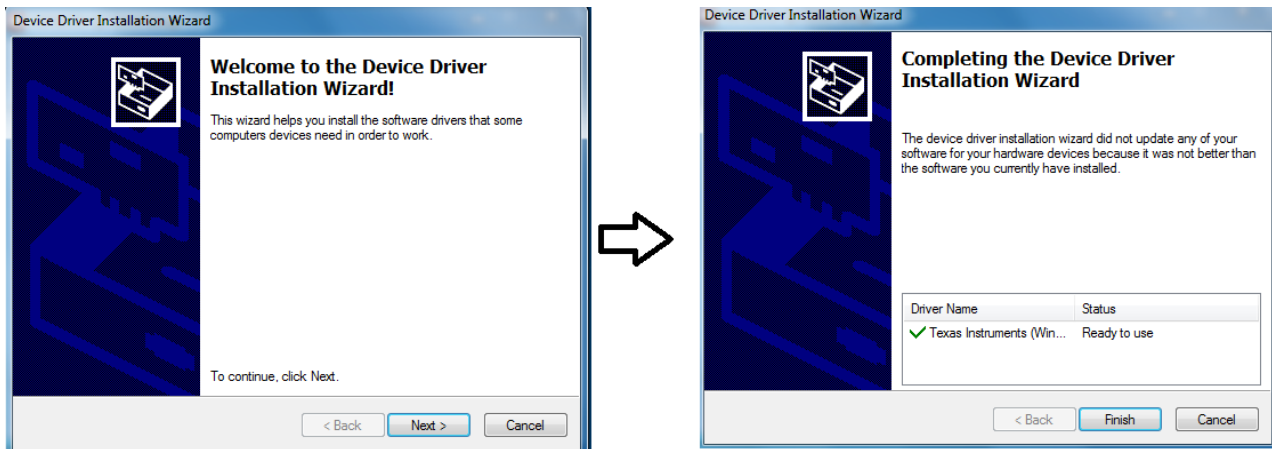

Figure 4. Device Driver Installation Wizard Prompts
- As a part of the ADS8353-Q1EVM GUI installation, a prompt with a Device Driver Installation Wizard (Figure 4) appears on the screen. Click the *Next* button to proceed, then click the *Finish* button when the installation is complete.